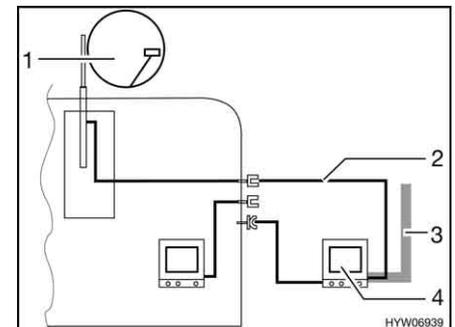

Fig. 122 TV in the awning
- TV inside the awning (Fig. 122,4): Connection to roof antenna (Fig. 122,1) with connection cable (Fig. 122,2)
- TV inside the awning (Fig. 122,4): Connection to external antenna (Fig. 122,3)